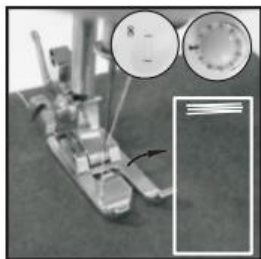

Fig. 17
2. Turn on the switch and sew 5-6 stitches in low speed, then turn off the switch (Fig.17).